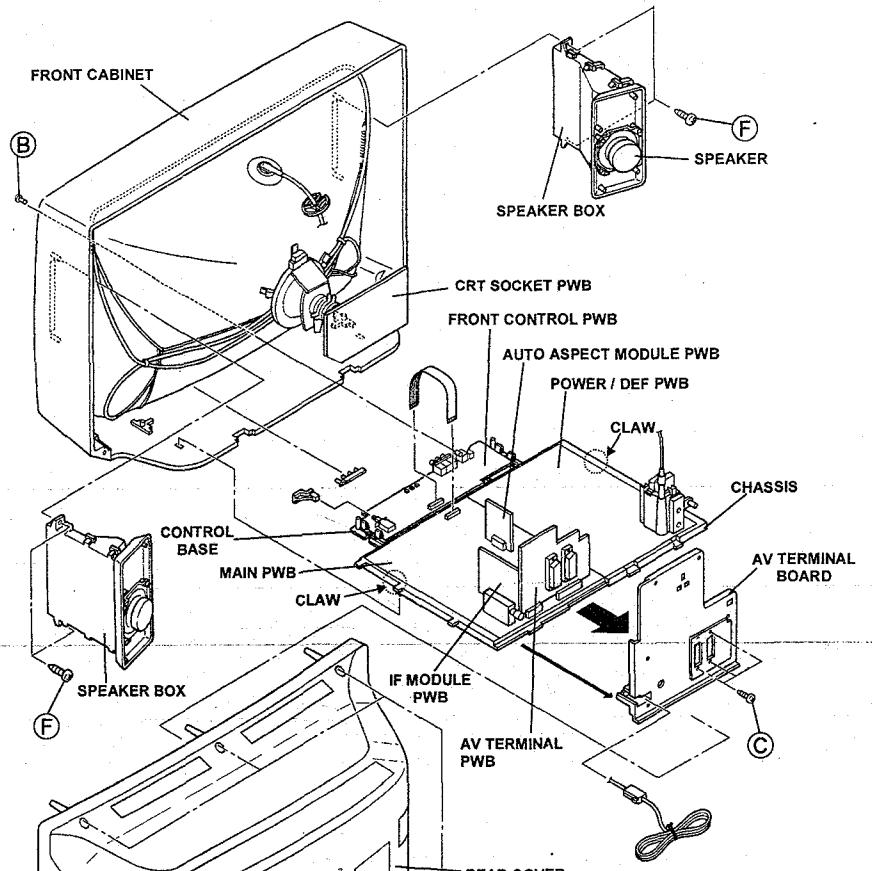

Fig. 1
1. Remove the 3 screws marked "(C)" as shown in the Fig. 1.
1. Remove the 2 screws marked "(F)" as shown in Fig. 1.